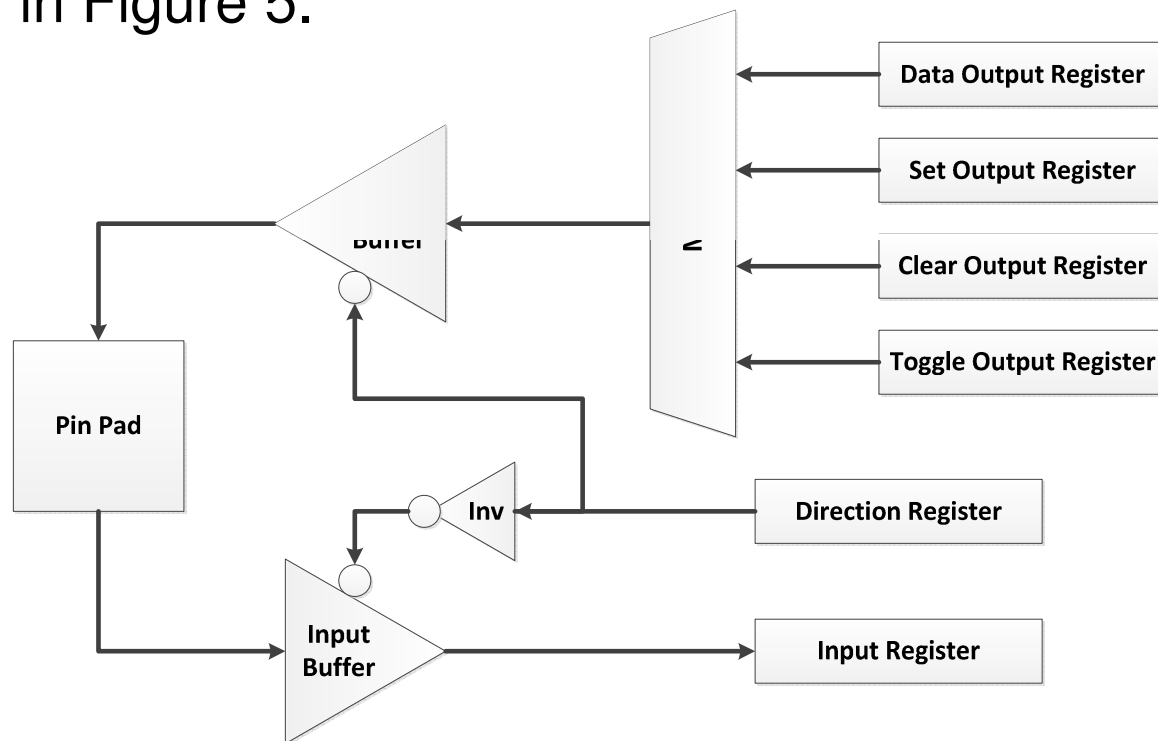

Figure 5: A GPIO Pin Block Diagram
- Each GPIO pin has 6 registers that are used to modify and evaluate the state of the pin. The block diagram for the GPIO pin operations used in the Kinetis microcontrollers is shown below in Figure 5.